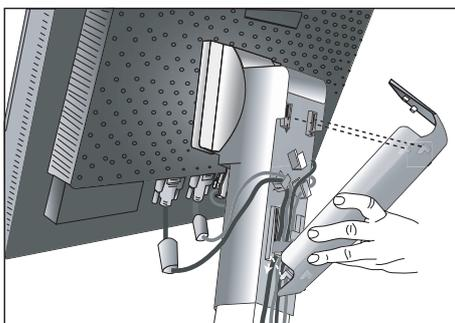
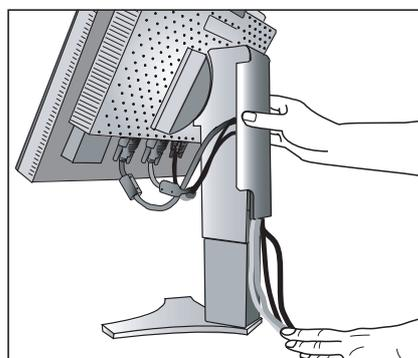

Figure D.1
Figure D.2
7. Hold all cables firmly and place the cable cover onto the stand (Figure D.1). To remove the cable cover, lift the cover off as shown in Figure D.2.